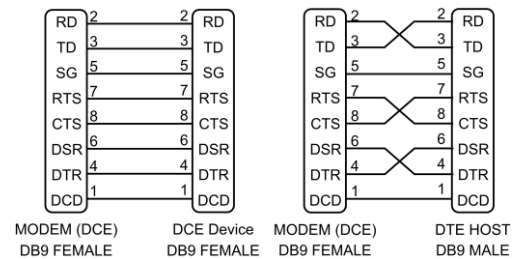

Figure 13 - Serial Cable
Example cable drawings for connecting to a DTE host (PC) or another DCE device (modem) are detailed in Figure 13 - Serial Cable. A General rule of thumb for determining if the device is DCE or DTE is to look at the DB9 Connector and if it's a Female the device is DCE and if its Male its DTE. Also if the device plugs into a computer with a standard straight through cable and works the device is a DCE.